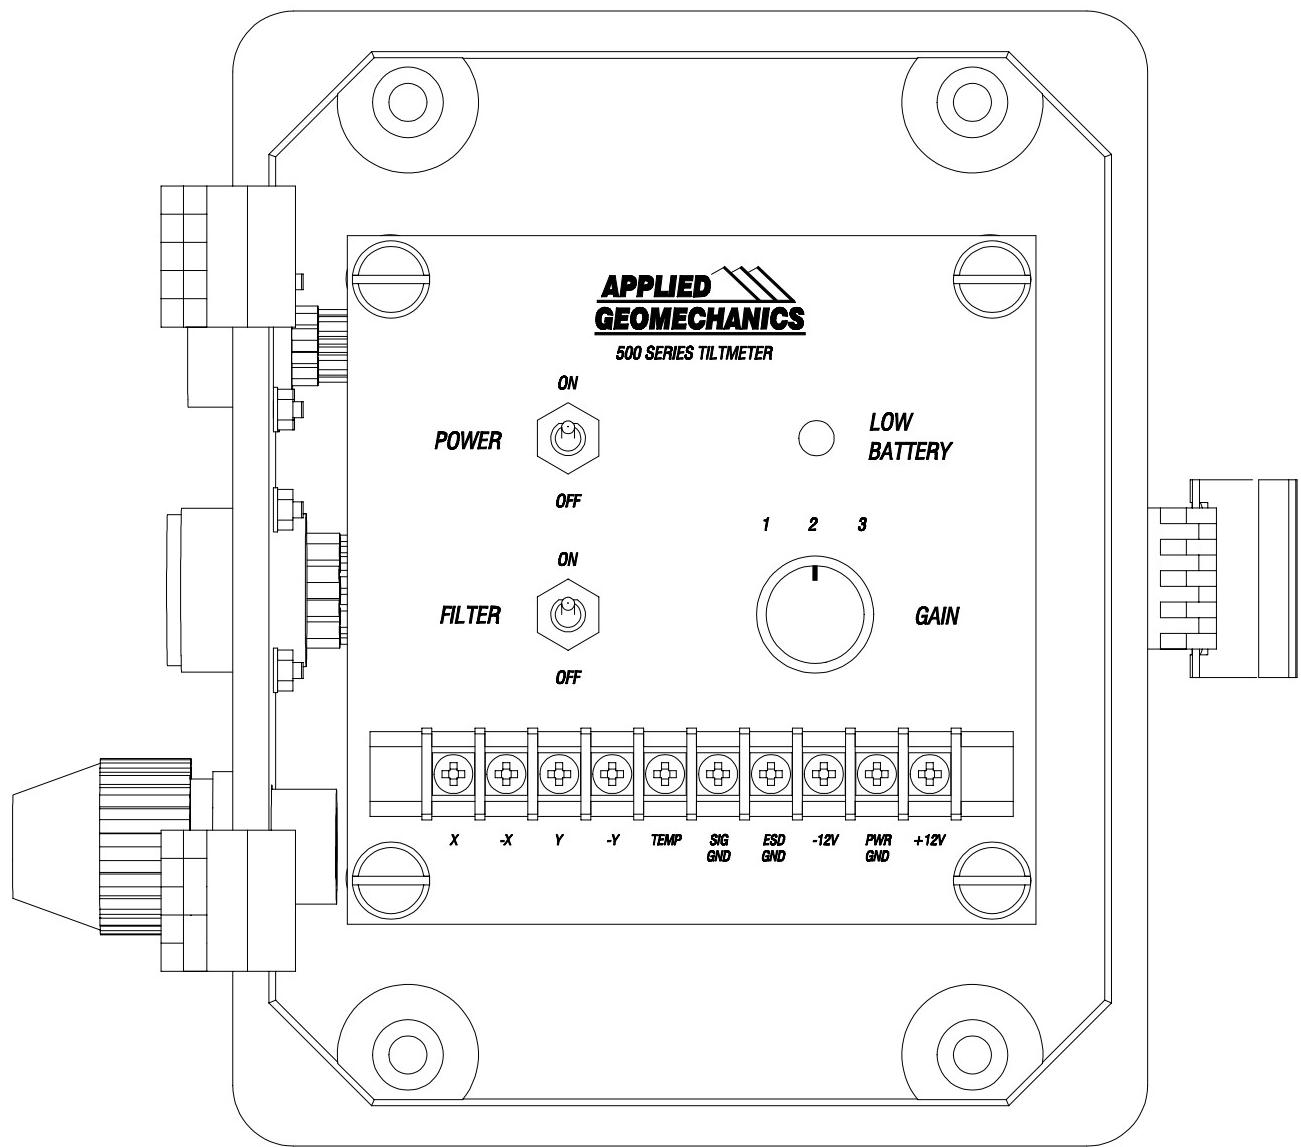
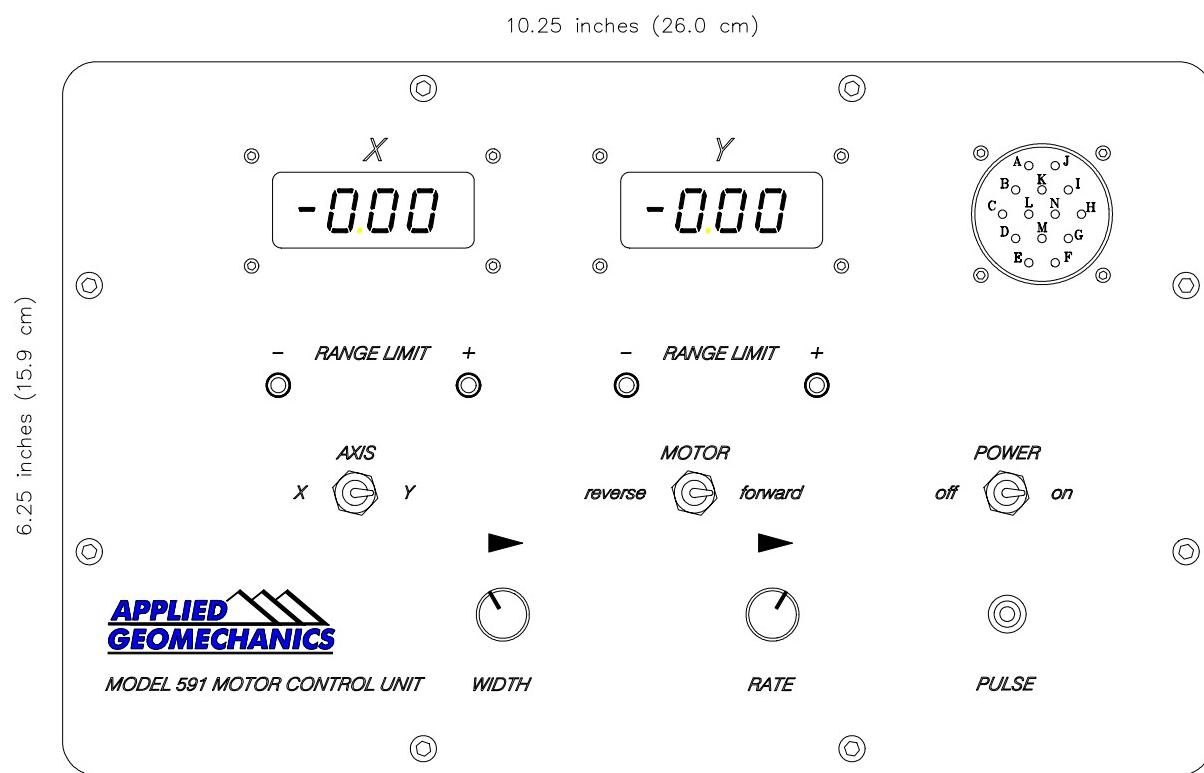

Figure 7. Inside of switch box, showing control panel
Figure 8. Control panel, Model 591 Motor Control Unit
The screw terminal strip in the switch box (Figure 7) provides connections to your external DC power supply (batteries or AC-to-DC converter) and external data recorders. Access to the terminal strip is via a feedthrough in the side of the switch box. The feedthrough contains a grommet that can be tightened against your cable by turning the nut on the outside of the feedthrough. The switch box is equipped with a hasp, which allows it to be locked for extra security. When the lid is closed, the switch box is protected from light rain and splashes. It is not waterproof and should *never* be submerged.
The Motor Control Unit warns you when you approach the end of the sensor's mechanically adjustable range. Range limit indicator lights turn on when you are near the +7° and -7° range limits (Figure 8). The range limit lights are not active in tiltmeter version 90510-03.
All of the controls and indicators you will use when operating the Model 510 tiltmeter are in the switch box (Figure 7) and in the Model 591 Motor Control Unit (Figure 8). The controls inside the switch box have the following functions:
All connections, controls and indicators are on the Model 591 control panel (Figure 8) and are described below:
2. Connect the power supply or batteries to the terminal strip in the switch box (Figures 7 and 9). The POWER switch should be OFF at this time.